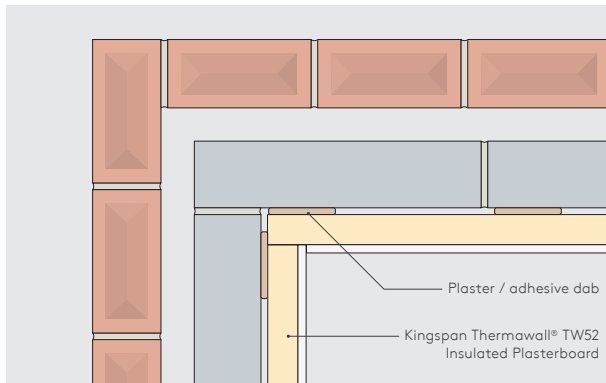

Figure 6: Internal corner detail
- For external corners (including reveals), the lining should run past the corner and the insulating backing of Kingspan Thermawall® TW52 should be cut back to create a junction (see Figures 6 & 8). Sheets should be cut and rebated to allow a plasterboard / plasterboard joint at the angle.
- Ensure sheets are lightly butted and air gaps minimised to reduce the risk of cold bridging (see Figures 6 & 8). Any air gaps should be sealed with flexible sealant or equivalent, or a combination of flexible polyurethane foam and flexible sealant or equivalent.